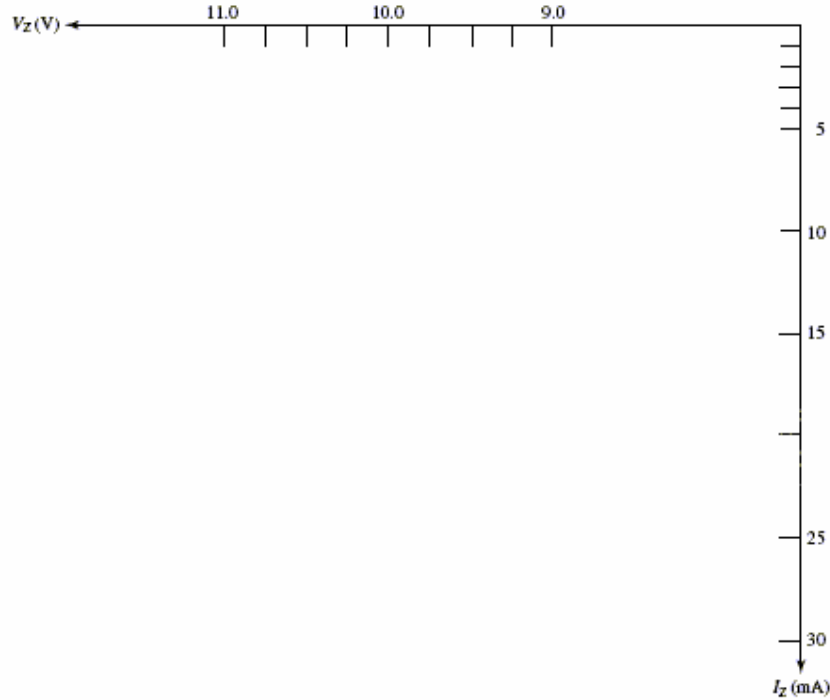

Fig.8: Zener Reverse Operating Curve.
19. Use the values from Table 3 to plot the I_Z versus V_Z curve in Figure 8.